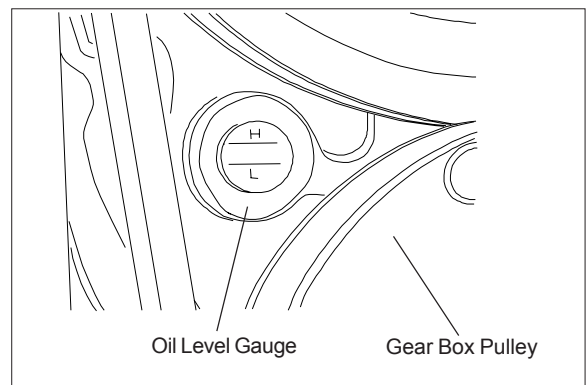

Figure 15. Gearbox Oil Level Gauge
7. Add lubricant until the level is halfway up the sight gauge window (refer to Figure 15). Use Shell Spirax HD 90 gear lubricant.